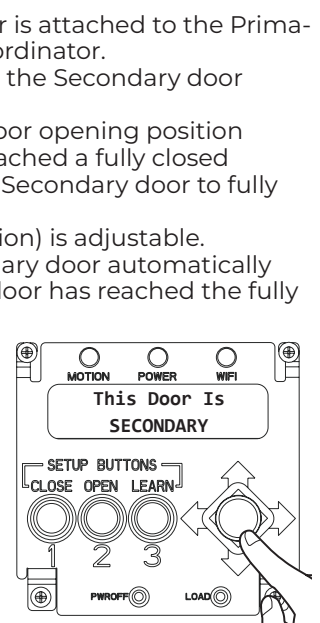

Figure 22
- Screen will display “YES (NOT LINKED)” until properly set up. (Figure 22)
- **This Door is** = SECONDARY (Figure 22)